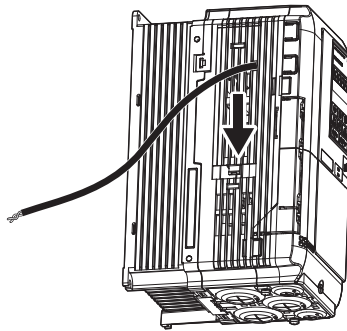

Figure 4.32 Reattaching the Connector Cover (2)
- Slide the connector cover back into place as shown in Figure 4.32.